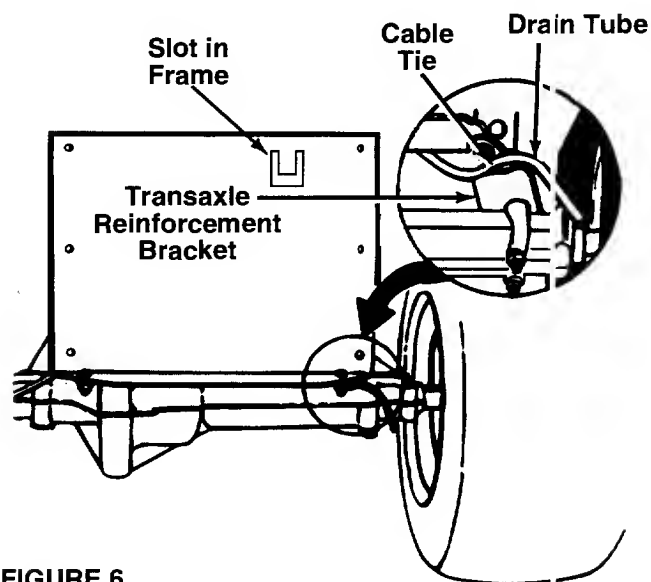

FIGURE 6.
6. Secure battery by hooking battery strap into slot in rear frame, under the fender. See figure 6.
7. Insert the drain tube through the hole in the transaxle bracket or through the cable tie (if so equipped) which is attached to the transaxle reinforcement bracket on the **right** side of the unit. See figure 6. Be certain drain tube is routed away from the wheel rim.